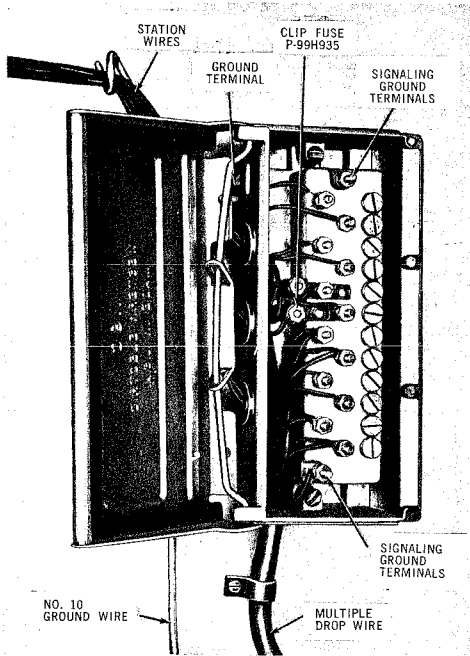

Fig. 3 - 116C Protector (Outdoor)
2.03 *116C Fuseless Protector* (Fig. 3) is arranged for fastening to mounting surface without requiring a separate mounting bracket. The signaling ground terminals are located at each end of the terminal block. It is equipped with 2A1A-3 mil. protector units.